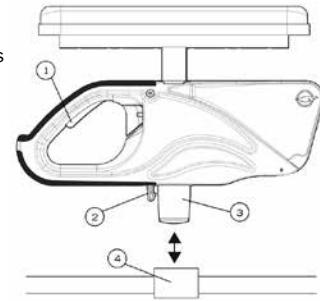

Fig. 3
- Pull lever (1) (Fig. 3) upwards to release the system.